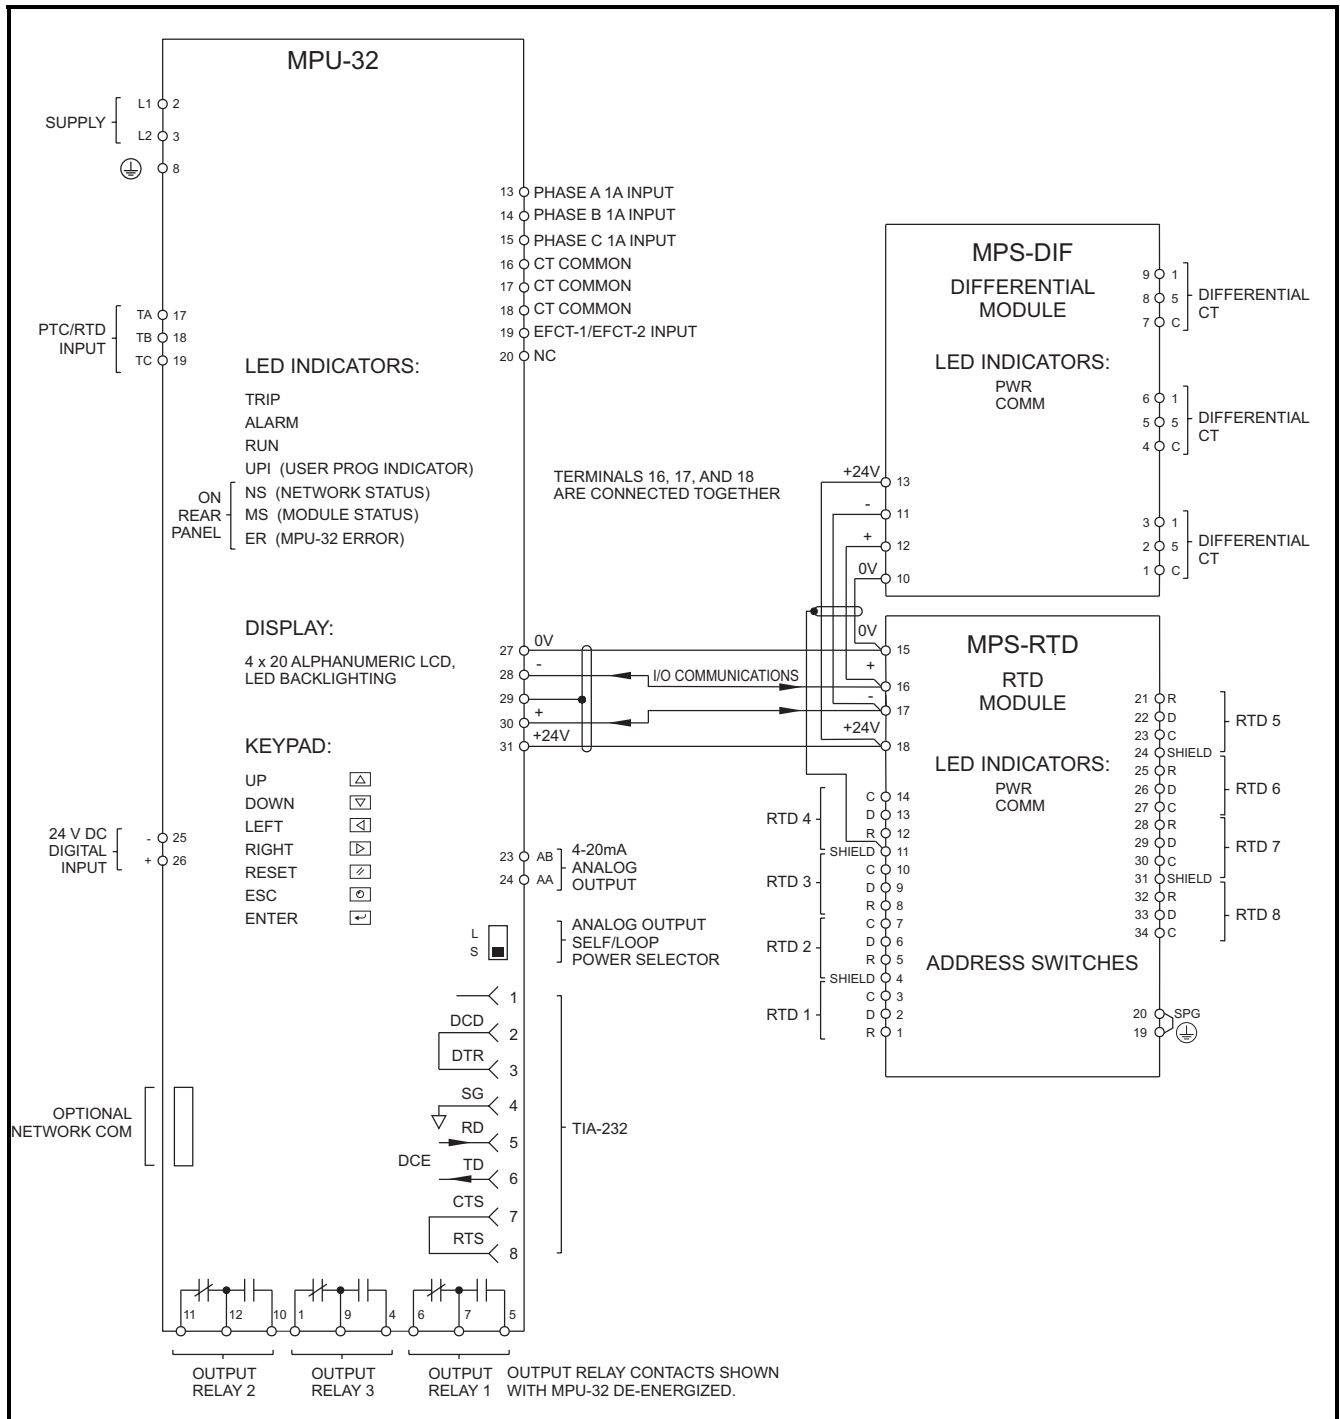
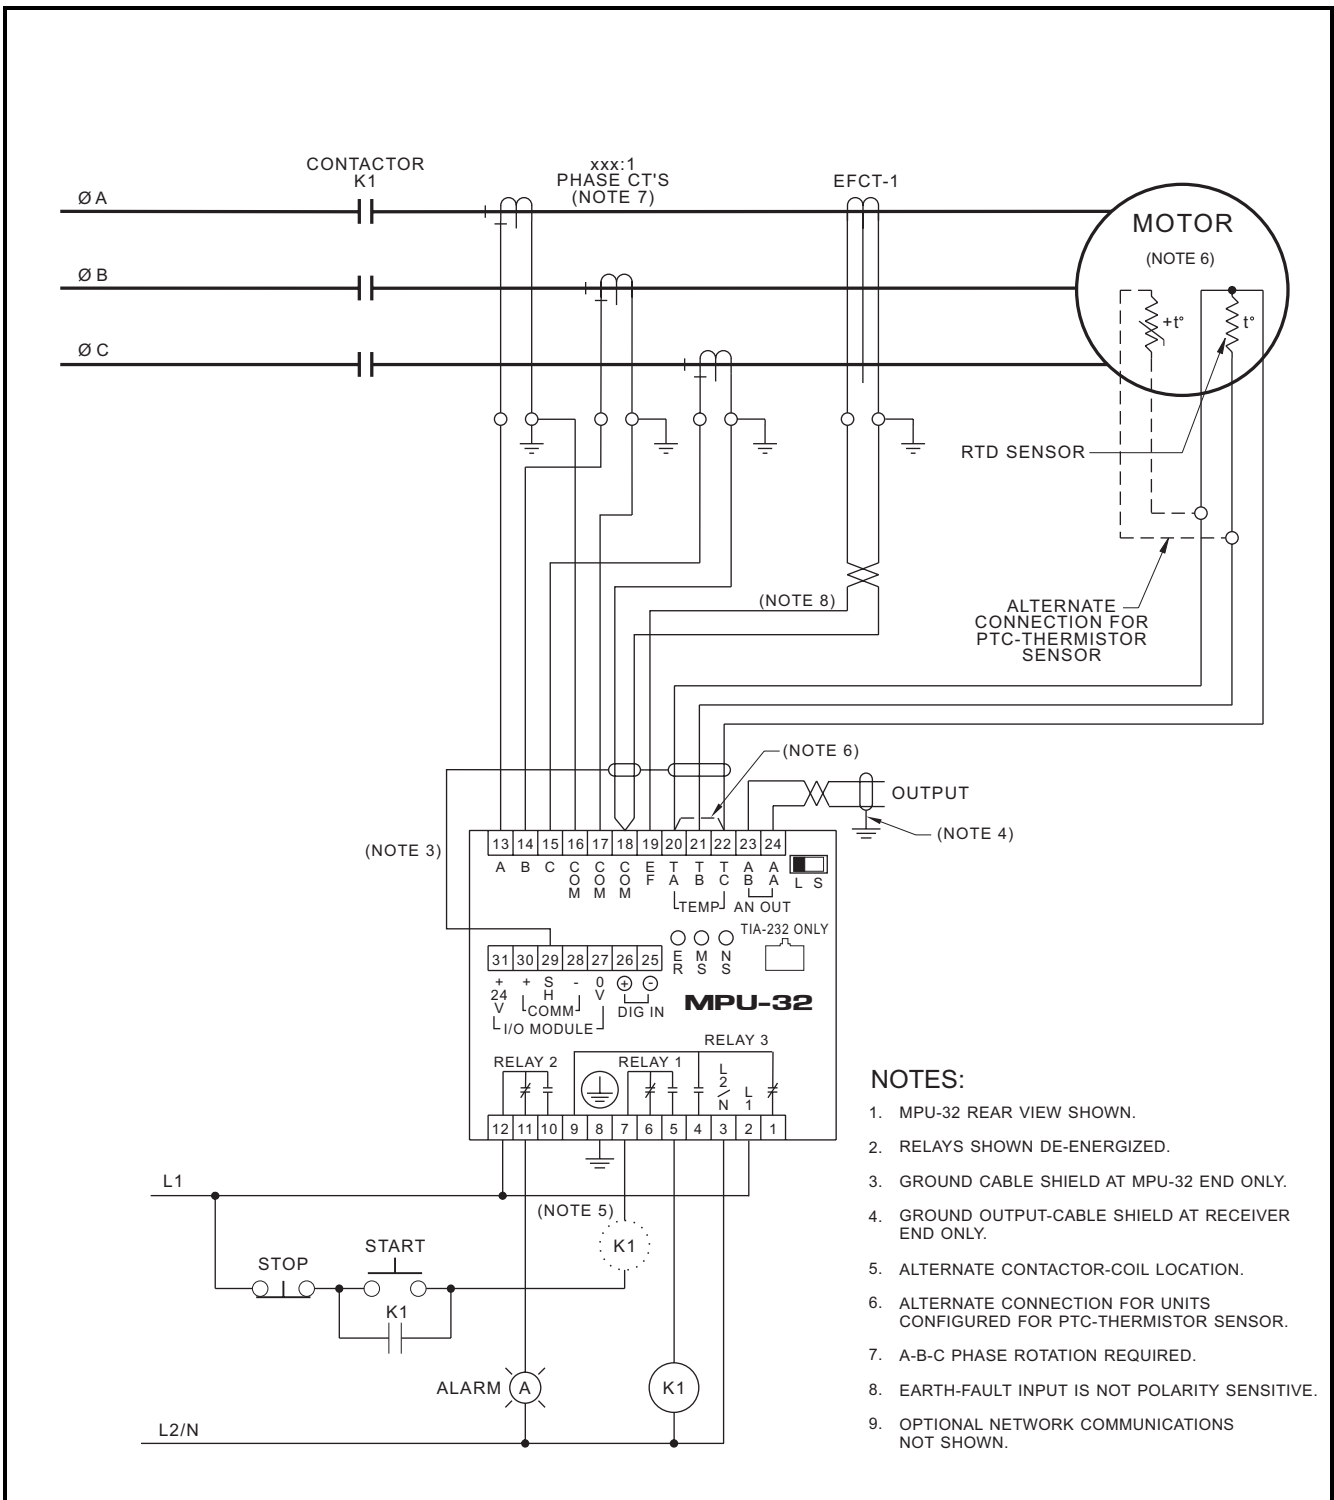

FIGURE C.1 MPU-32-XX-01 Block Diagram.
FIGURE C.2 MPU-32-XX-01 Typical Connection diagram
The block diagram of the MPU-32-XX-01 is shown in Fig. C.1 and a typical connection diagram is shown in Fig. C.2.
Connect each CT secondary to the MPU-32 terminal block as shown in Fig. C.2. Although COM terminals 16, 17, and 18 are connected in the MPU-32, three independent CT common leads must be used to prevent exceeding the terminal-block current rating under fault conditions.
The earth-fault input at terminals 18 (COM) and 19 (EF) supports only the 5-A-primary rated EFCT-x series of current transformers. Using the shielded cable provided with the EFCT-x, connect the EFCT-x as shown in Fig. C.2. For earth-fault settings above 5 A, the EFCT-x can be used as an interposing CT or the MPU-32 can be set to calculate the residual earth-fault current based on phase-current measurement. In the latter case, an earth-fault CT is not required. When using the calculated method, the trip setting should be above 5% of the phase-CT-primary rating. See Sections 4.2.2 and 5.6.